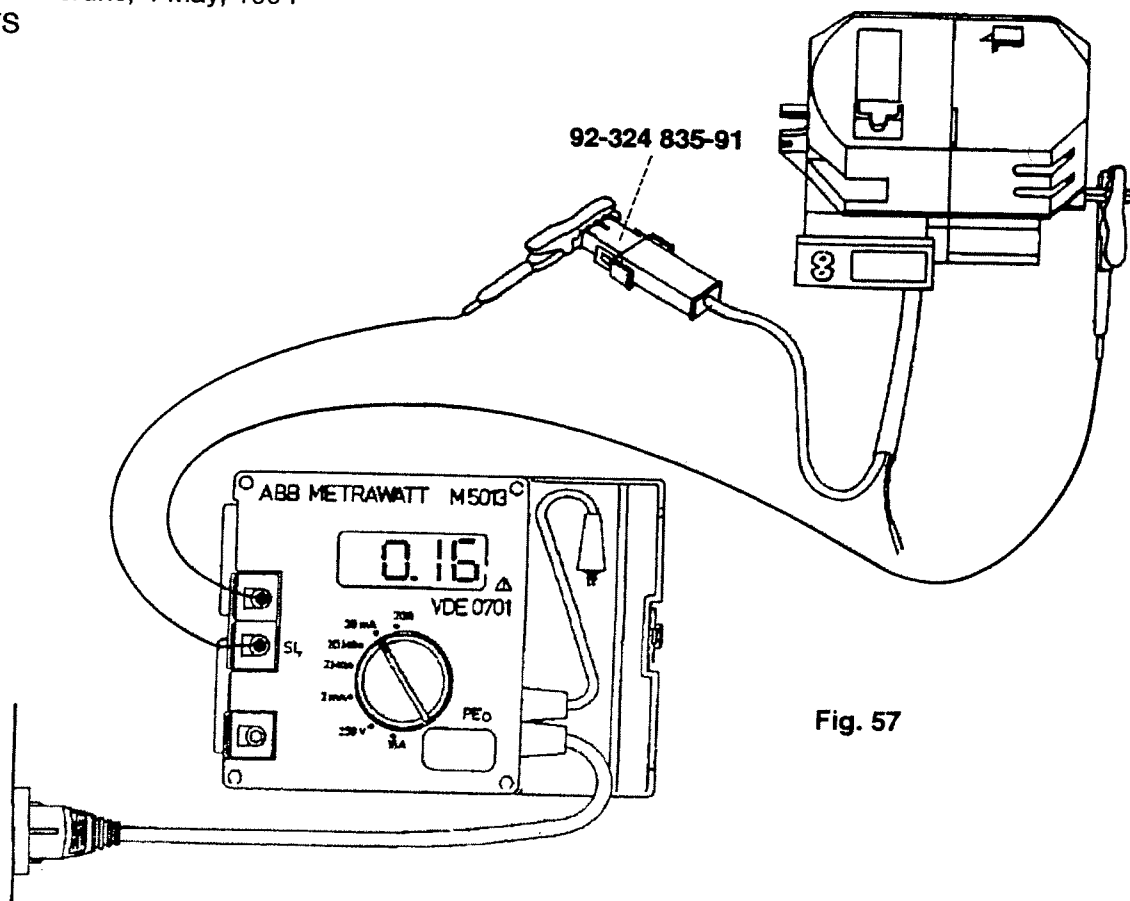

Fig. 57
- Set knob for measuring range at „20 mA“ (fig. 57).
- Attach the two test leads as shown in fig. 57.